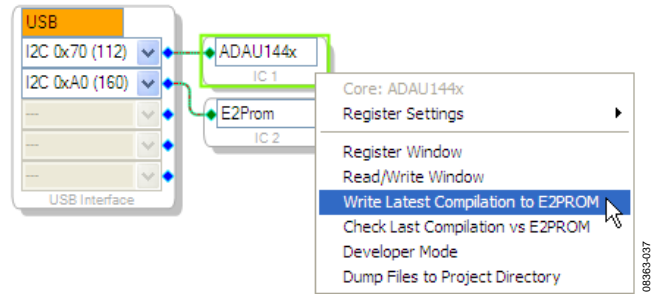

Figure 36. Writing to the Self-Boot EEPROM
4. Right-click the ADAU144x IC, and select **Write Latest Compilation to E2PROM**, as shown in Figure 36.